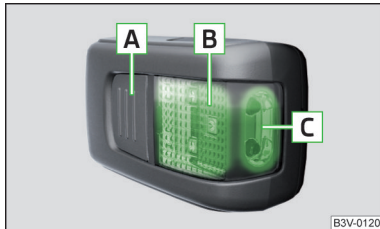

Fig. 143
**Description of the lamp** » Fig. 143
- » Press the button **A** » Fig. 143 - the lamp lights up.
- If the lamp is not switched off and it is correctly inserted in the holder, the LED diodes in the front part of the lamp **C** » Fig. 143 are automatically switched off.